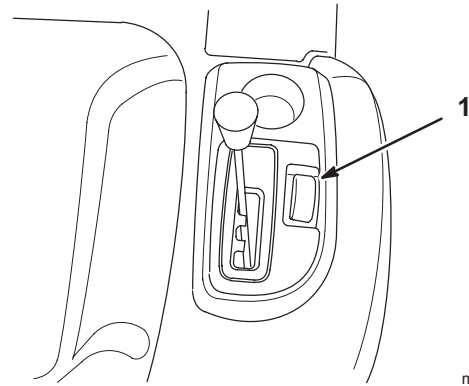

Figure 22
The cruise control is a switch (Fig. 22) on the right fender that maintains a set traction control position without foot pressure. The cruise control only operates when moving forward.
1. Begin driving the tractor; refer to Driving Forward or Backward, page 19. While holding your foot steady on the traction control pedal, push the cruise control switch (Fig. 22) to the “SET” position. This locks the traction control in position and your foot can then be removed from the traction control. A constant pedal position will be maintained.